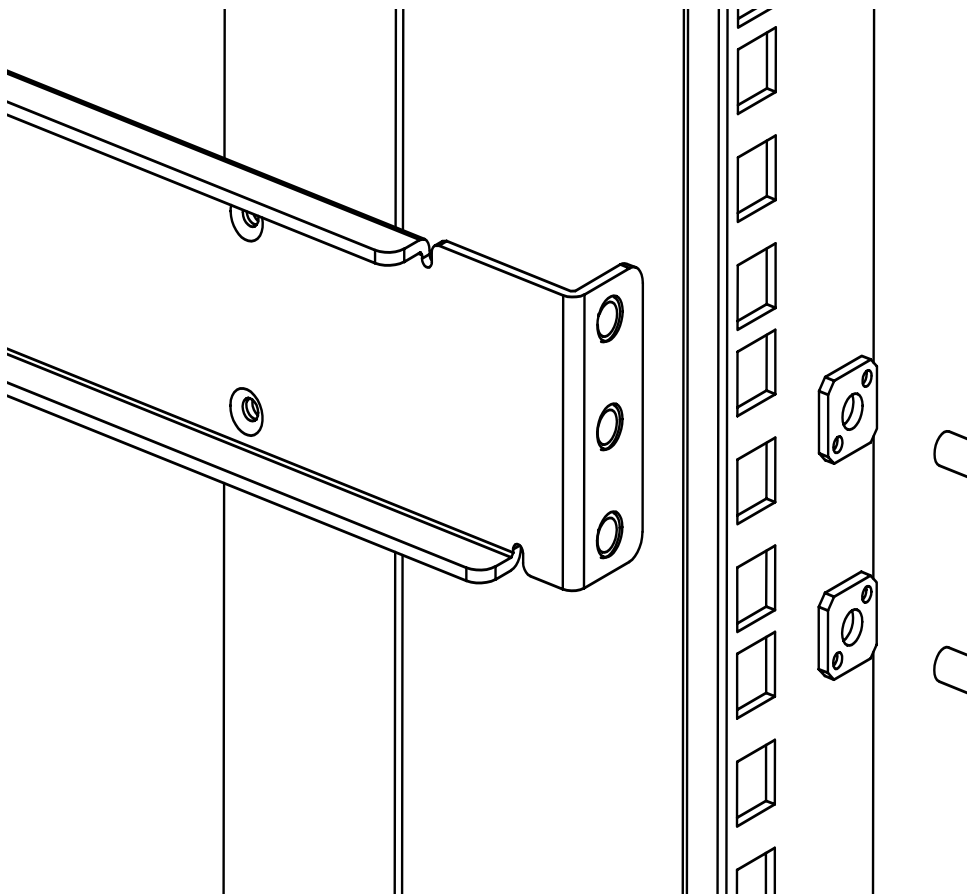

Figure 10 Assembling the outer rails (HP 10,000 series)
- For an HP 10,000 series, install two #10-32 x 1/2-inch Phillips pan-head screws with captive star lock washers and two #10 adapter washers in the upper and lower hole locations of the right rail. Then install two #10-32 x 1/2-inch Phillips pan-head screws with captive star lock washers and two #10 adapter washers in the upper and lower hole locations of the left rail. See Figure 10.